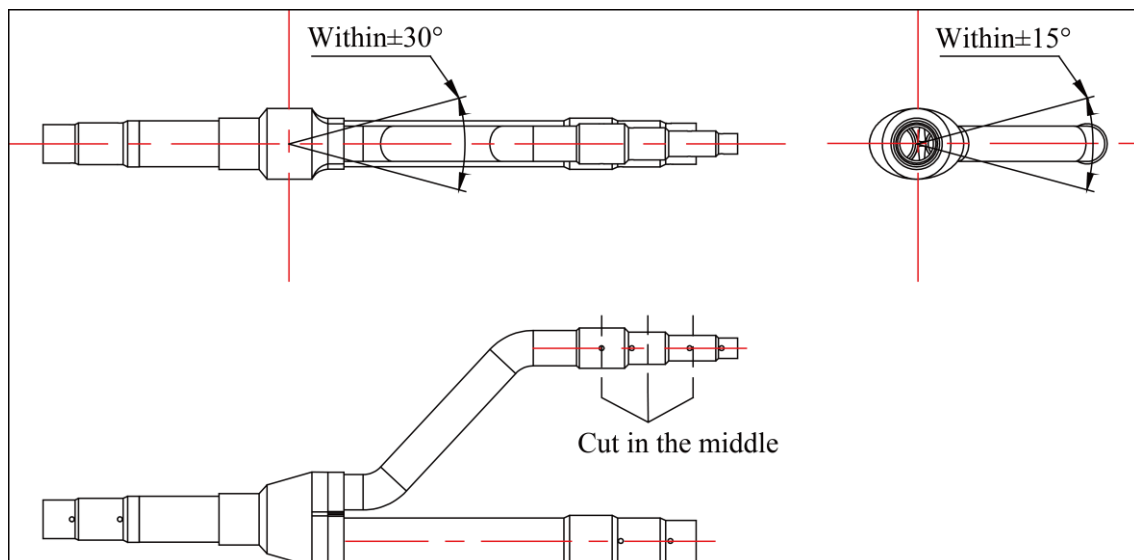

Fig.32
(2) Y-type manifold has several pipe sections with different pipe size, which facilitates to match with various copper pipe. Use pipe cutter to cut in the middle of the pipe section with different pipe size and deburr as well. See Fig.32.
(3) Y-type manifold must be installed vertically or horizontally.